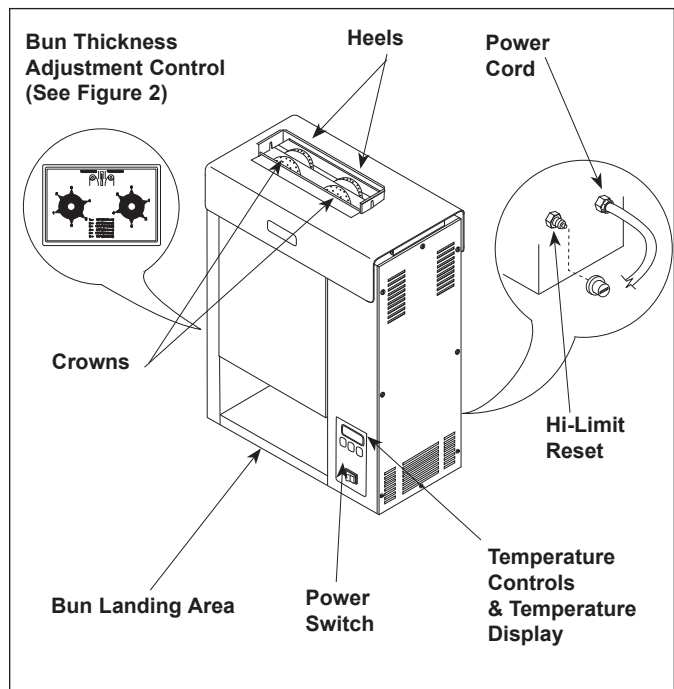

Figure 3. VCT-2000 Toaster
NOTE: The temperature display (Figure 3) will flash “LO” until the toaster reaches its preset operating temperature. When “USE” appears, the unit is ready to toast buns. If “USE” does not appear in the window after approximately 30 minutes, contact your Authorized Service Agency.
3. Drop Crowns into the front slot and Heels into the rear slot (Figure 3).
4. Toasted buns drop into the Bun Landing Area (Figure 3).
A Hi-Limit Control turns off electrical power to the heater and control circuits if the Platen Heater overheats. To reset the control, allow 10-15 minutes for the Platen Heater to cool, then locate the Reset Button at the rear of the unit (Figure 3). Remove the black protective cap, press the Reset Button, and reinstall the protective cap.